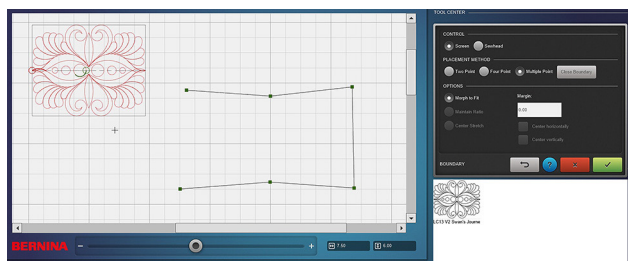

Fig. 43
2. Unlike 2- and 4-Point Placement, the number of points for alignment is entirely decided by you. Therefore, you will plot all the points with the Sewhead, then choose Close Boundary on the computer to let it know the points are completed (Fig. 43).